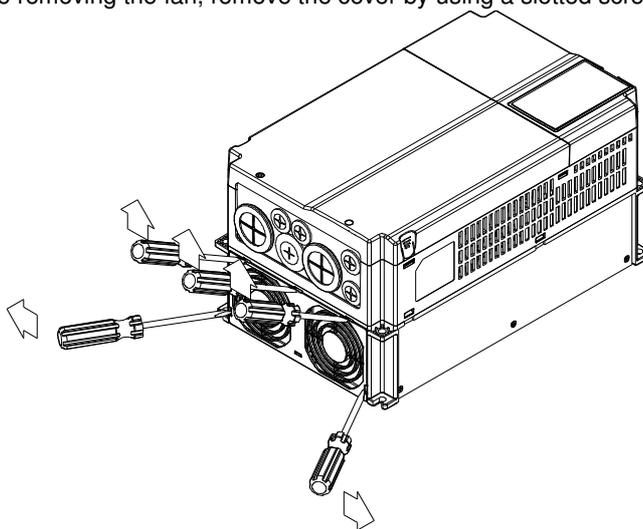

Figure 1
1. (As shown Figure 1) Before removing the fan, remove the cover by using a slotted screwdriver.